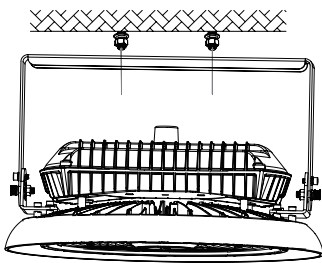
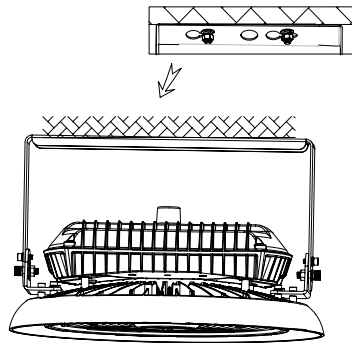

FIG.5
FIG.6
- 3 Align the bracket hole with the screw hole, as seen in (Figure 5). Then, slide the fixture to one side, as illustrated in (Figure 6), and secure it in place.